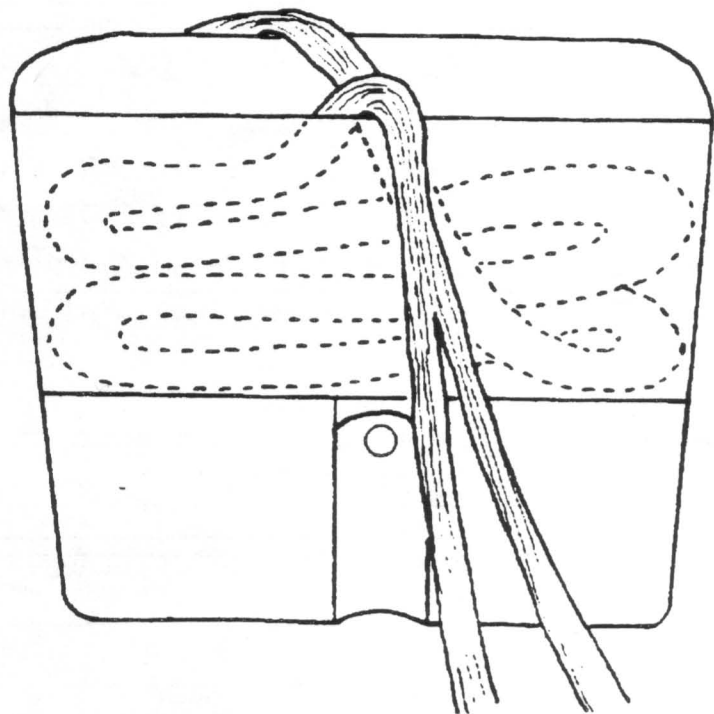

FIG.12
6) After the two locking stows are made, stow the remainder of the suspension lines (to within 6" of the connector links) in the line-stow pouch on the back of the bag. This is where it is useful to use the velcro strips mentioned in the list of tools. Cover the hook velcro on the pouch with the strips of loop velcro while stowing the lines in the pouch. Make the "S" folds of the lines the full width of the pouch. To close the pouch, remove the strips of loop velcro and mate the velcro at the mouth of the pouch, being sure that none of suspension lines are captured by the closure (FIG. 12).